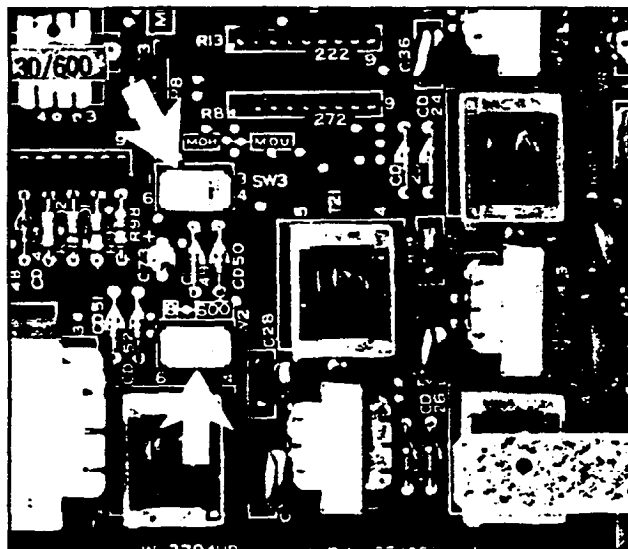

FIGURE 5—MMAU SWITCHES
06.02 External page options are selected using the SW2 switch located on the MMAU (Figure 5). Decide if the 8 or 600Ω impedance is required and then make the selection by positioning SW2 to "8" or "600".
SW3 switch located on the MMAU (Figure 5). SW3 is factory-set in the MOH position for use of an external program source. Move SW3 to the side marked MOU if the AMOU PCB is to be used.